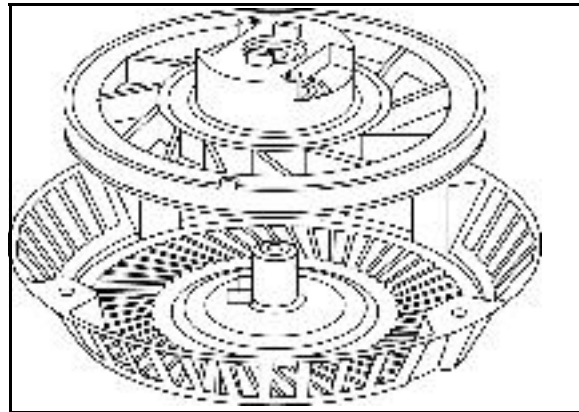

Fig. 5
- Carefully lift out pulley and spring assembly, (Fig. 5).